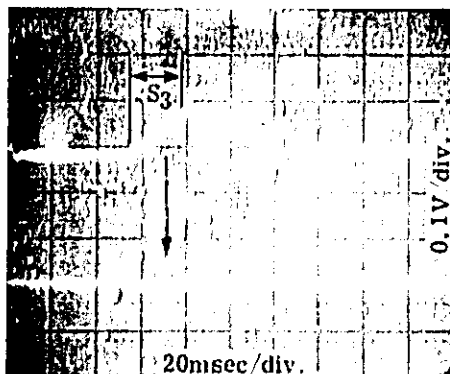

Figure 5-12. Waveform at A6TP2 (1).
- Observe waveform at A6TP2. Adjust "C" OFFSET ADJ for flat waveform shown in Figure 5-12.